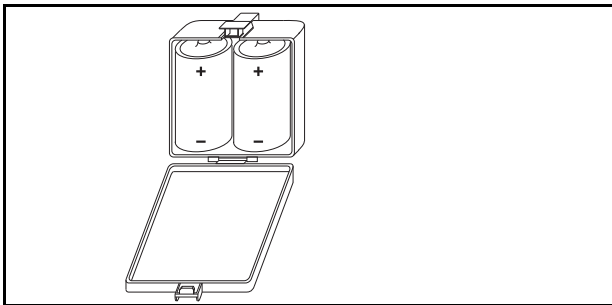

Fig. 6 Inserting the batteries
- ▶ Correctly insert the two 1.5 V batteries (Fig. 6) type R provided with the heater.